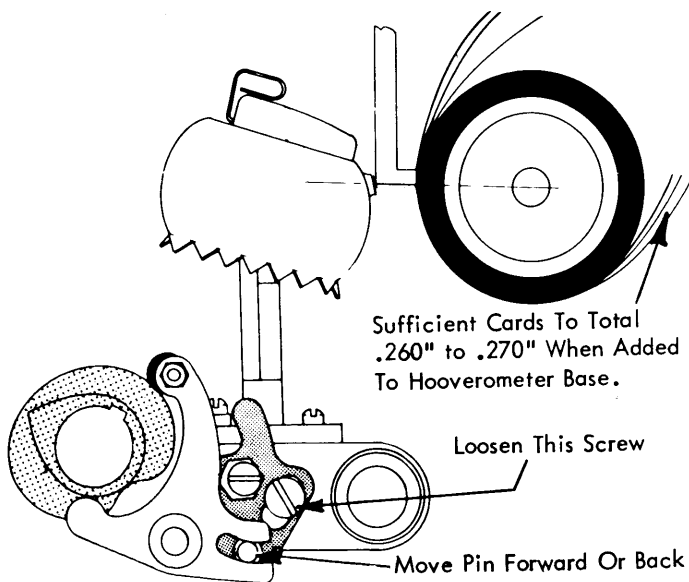

FIGURE 77. Velocity Control Plate Adjustment
- d. Hand-cycle the machine until the print cam follower is at the low point of the cam. This may not be at the rest position. The low point of the cam can be determined by observing the movement of the head toward the front of the machine. With the typehead at its most forward point, adjust the velocity control plate pin forward or back in the cam follower slot until a clearance of .260" to .270" exists between the center of the letter "Z" and the platen (Fig. 77).
The base of the Hooverometer handle can be used as a measuring device as illustrated in Fig. 77. The handle base is about .250" thick; however they do not all measure the same. Each handle should be measured with a dial indicator or micrometer to determine its exact size. When the size of the handle base is determined, a thickness of tab cards should be placed around the platen that will total .260" to .270" when added to the thickness of the handle base.